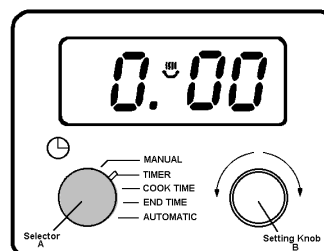

Fig.3
Turn the selector (A) to 'Timer'. 0.00 and the cookpot (🔥) symbol will glow. Fig. 3.